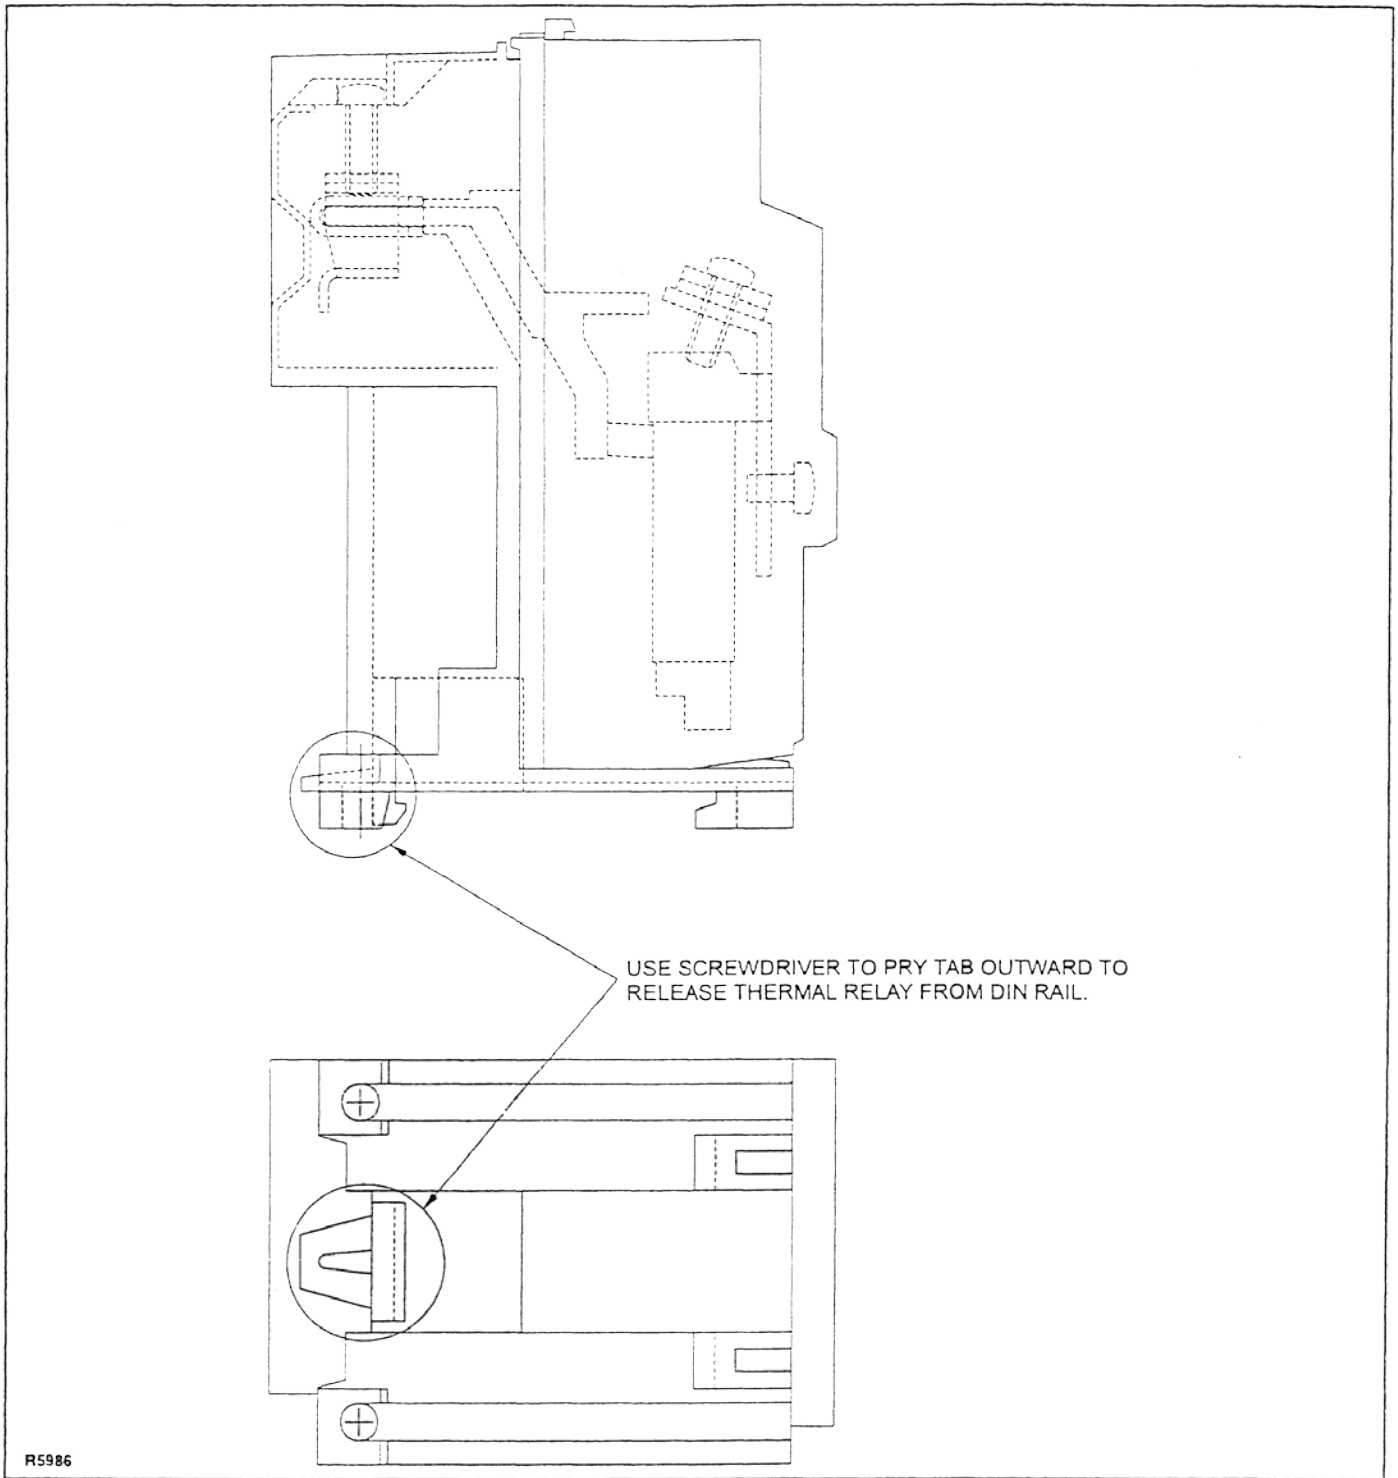

Figure 7-6. Overload Relay
1. Label and disconnect wiring/terminal rings for the overload relay (30), AC-contactor (31), and capacitor.
2. Using a screwdriver, pry the tab on the overload relay (30) and AC-contactor (31) and remove from the mounting rail (7). Refer to Figure 7-6.
3. Separate overload relay (30) and AC-contactor (31).
4. Remove the screws (5) and lock-washers (6) which fasten mounting rail (7). Remove the mounting rail.